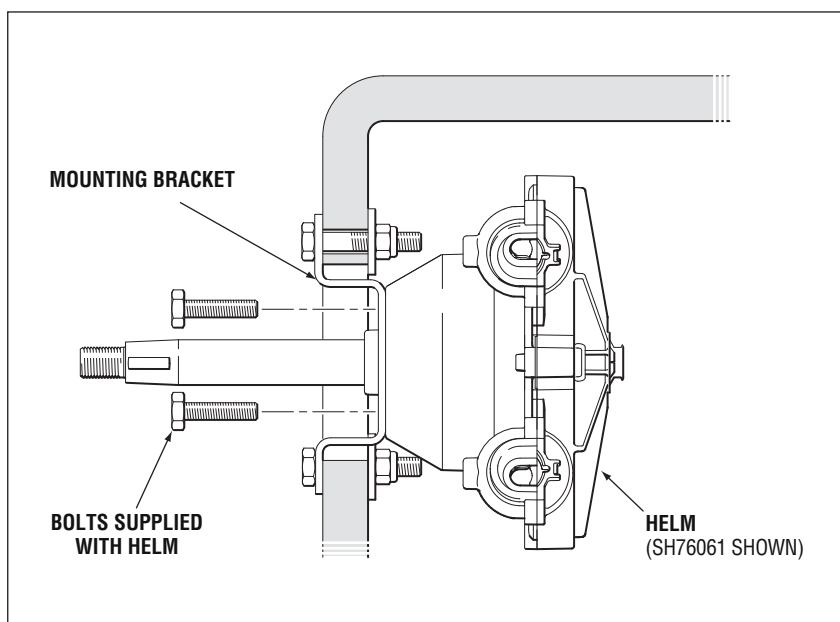

Figure 4.
- STEP 1.** Insert helm steering shaft through hole in mounting bracket (refer to figure 4), orienting in the proper direction for steering cable entry, and align mounting holes. Insert the three (3) hex bolts supplied with the helm through the mounting bracket and thread into the helm. Torque to 75 in-lbs minimum. DO NOT EXCEED 120 IN-LBS.